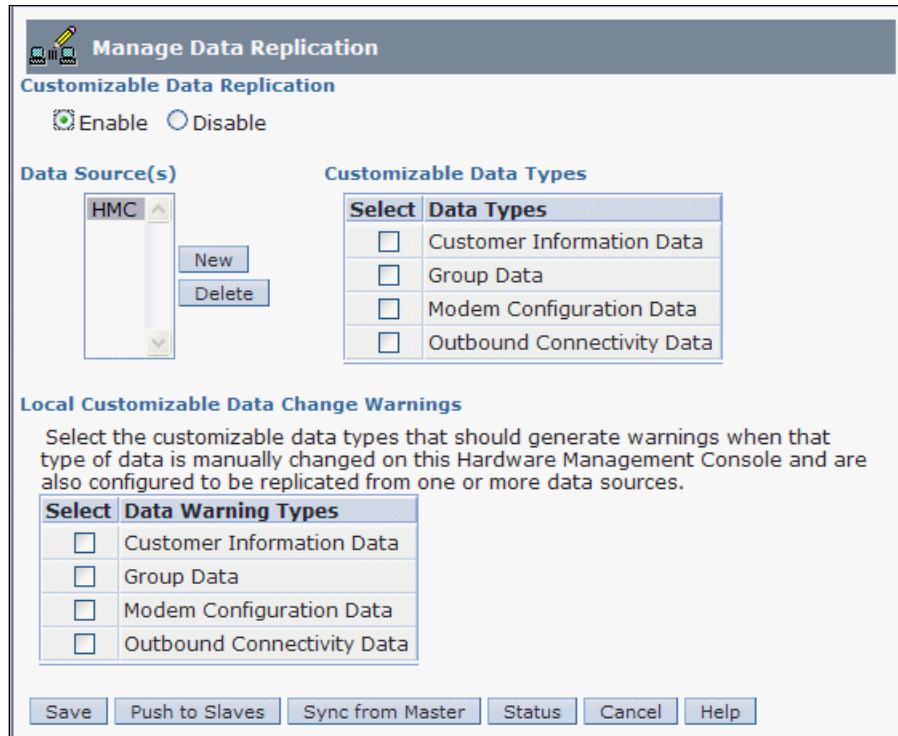

Figure 2-29 Manage Data Replication - Customizable Data Replication
Figure 2-29 shows the types of customizable console data that can be replicated.
6. The Customizable Data Replication window opens again as shown in Figure 2-29 on page 65.